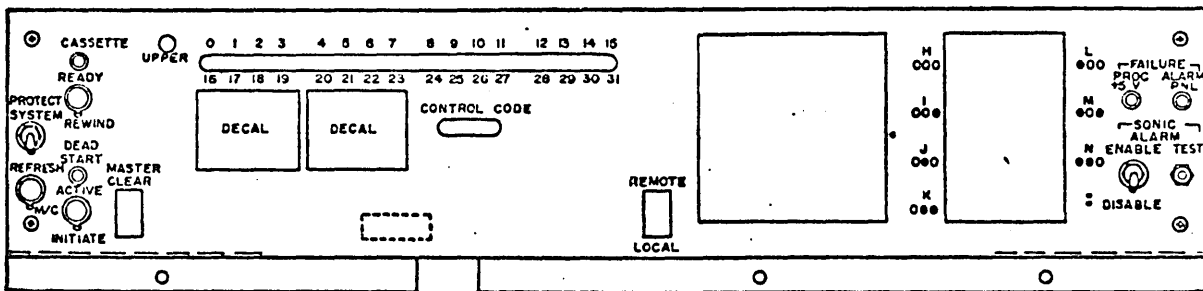

Figure 6B-1. Maintenance Panel Mounting
3. Remove the mounting screws at the bottom of the panel. Figure 6B-1.